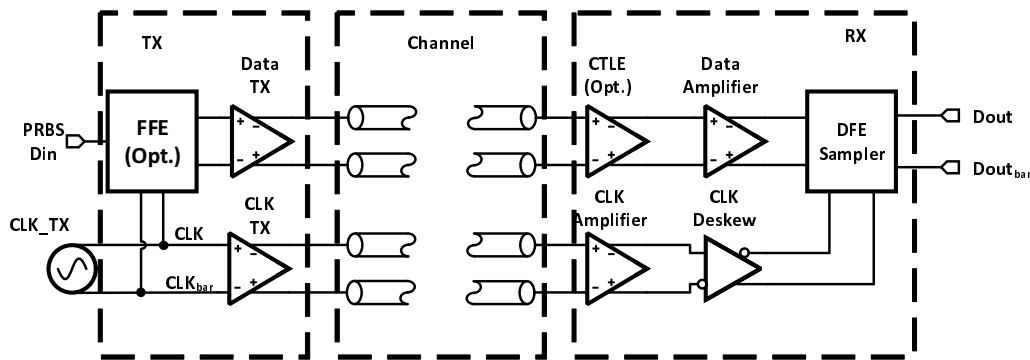

Figure 1: Basic Link High-Level Description
Technology scaling and unprecedented growth in demand for ubiquitous fast, robust computing. With the rise of heavy duty data centers to handheld mobile devices, the desire for faster, low-power integrated inter-IC communication protocols is at an all-time high and has led the roadmap of the semiconductor industry, making it one of the fastest growing yet fiercely competitive industry. With the growing needs for ultra-low power yet multi-Gbps signaling in both wired as well as wireline applications, integrated systems on chip (SoCs) have become mainstream critical components in modern computing systems. Ability to process and access ‘big-data’ are the fundamental demands in modern society where every second saved in prompt communication as well as computation of information is critical. In order to meet these needs of fast, robust signaling over the same old “lossy” channels, the clock-frequencies need to scale accordingly and clever I/O links need to be developed. Figure 1 shows a typical Serial Link that consists of a Transmitter (TX) with an externally provided TX_CLK, channel, Receiver (RX) with a forwarded clock and optional equalization schemes.